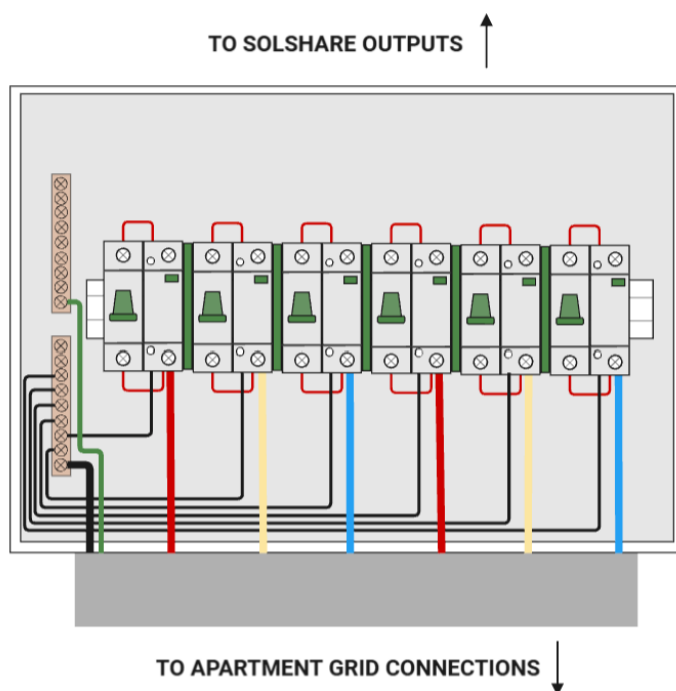

Figure 4: Isolation box internal wiring
5. Wire the contactors and connect one for each SolShare output, as shown in Figure 4.
6. Install the 9mm DIN rail spacers in between contactors to aid heat dissipation, as shown in Figure 4.